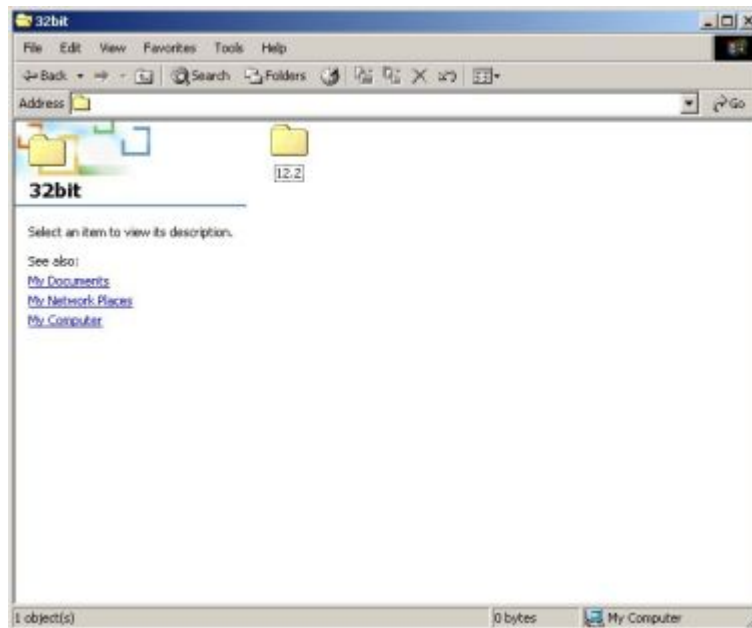

Figure 7-19: Driver Directory
Step 6: The window in **Figure 7-19** appears.
Step 7: Click on the directory icon in **Figure 7-19**.